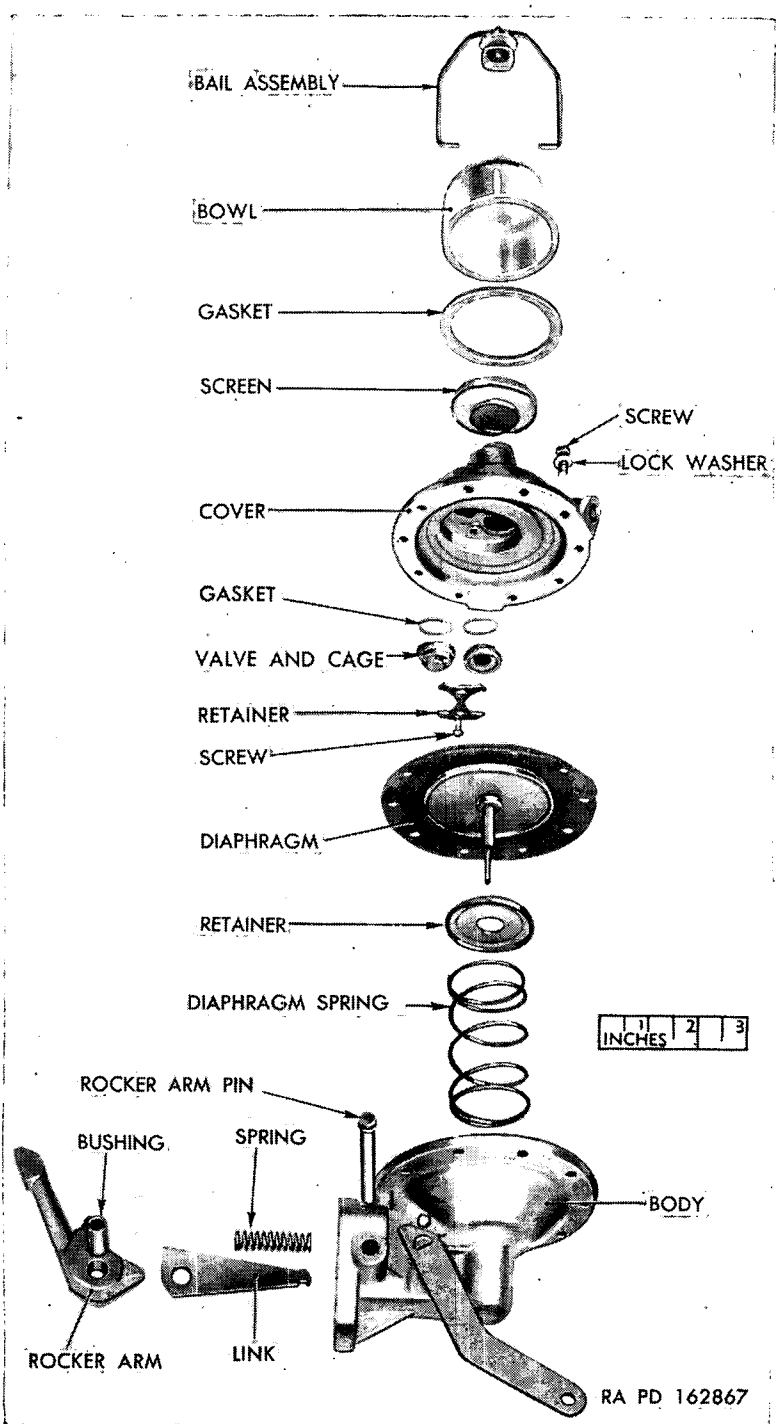

Figure 41. Fuel pump—disassembled (typical series AU construction).
(fig. 41)
a. Assemble Body (fig. 41).
- (1) Place fuel section gasket and seal in recess of body with dished portion of seal down. Press down firmly with flat end of $\frac{7}{8}$ -inch diameter round bar. Retain by staking die cast lip in four places.
- (2) Make an assembly of rocker arm and link with bushing. Place assembly of rocker arm and link in body with link hook down. Aline rocker arm pin and bushing with hole in body, and drive in the rocker arm pin. Place washer on small end of rocker arm pin and spread end of pin.
- (3) Soak diaphragm in clean kerosene. Fuel oil may be used; but do not use shellac or sealing compound. Place diaphragm spring over pull rod well; then place the spring retainer on spring. Slide the pull rod of the diaphragm assembly through retainer and spring. Hold pump body upside down and press diaphragm against spring. At the same time, tilt the diaphragm so the pull rod angles away from link hook. Bring diaphragm back to level and link should engage pull rod.